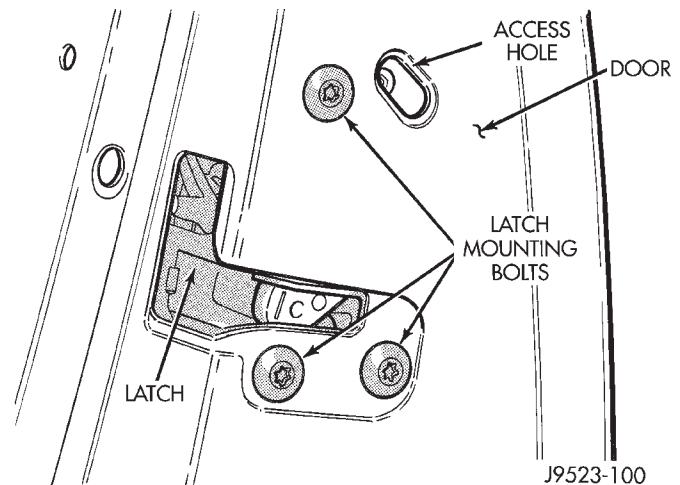

Fig. 79 Door Latch Adjustment
- (1) Locate access hole (Fig. 79).
- (2) Insert a 5/32-inch hex-wrench through hole and into adjustment screw. Loosen screw.
- (3) Operate outside handle button several times to release any restriction because of mis-alignment.
- (4) Tighten adjustment screw to 3 N·m (30 in-lbs) torque.
- (5) Test handle button and lock cylinder for proper operation.